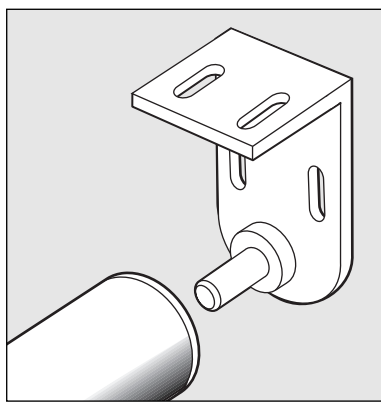

Fig. 5 : Relieving roller bracket
(4) Install the relieving rollers on their purpose-made supports. (fig 5)